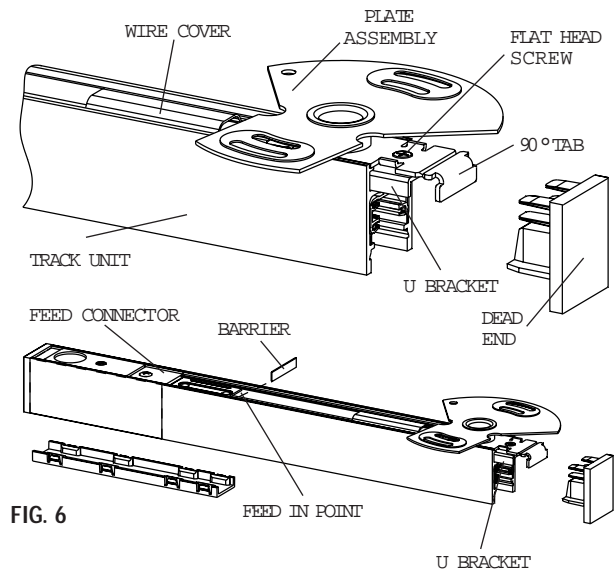

FIG. 6
3. Break the BARRIER off the FEED CONNECTOR or FEED TRACK. (Fig. 6)
5. Assemble the "U" BRACKET onto the PLATE ASSEMBLY using the FLAT HEAD SCREW. (Fig. 6)